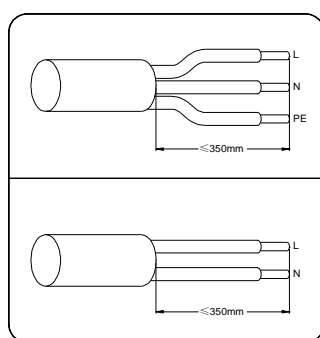
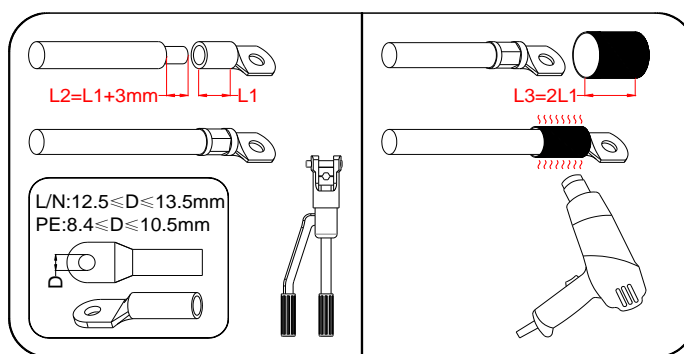

FIG 5-22 Prepare cable
FIG 5-23 Crimp terminal*
- 4) Strip a certain length of protective layer and insulation layer according to the requirements in the picture below , FIG 5-22. Prepare cables and crimp DT/DTM terminals, FIG 5-23.